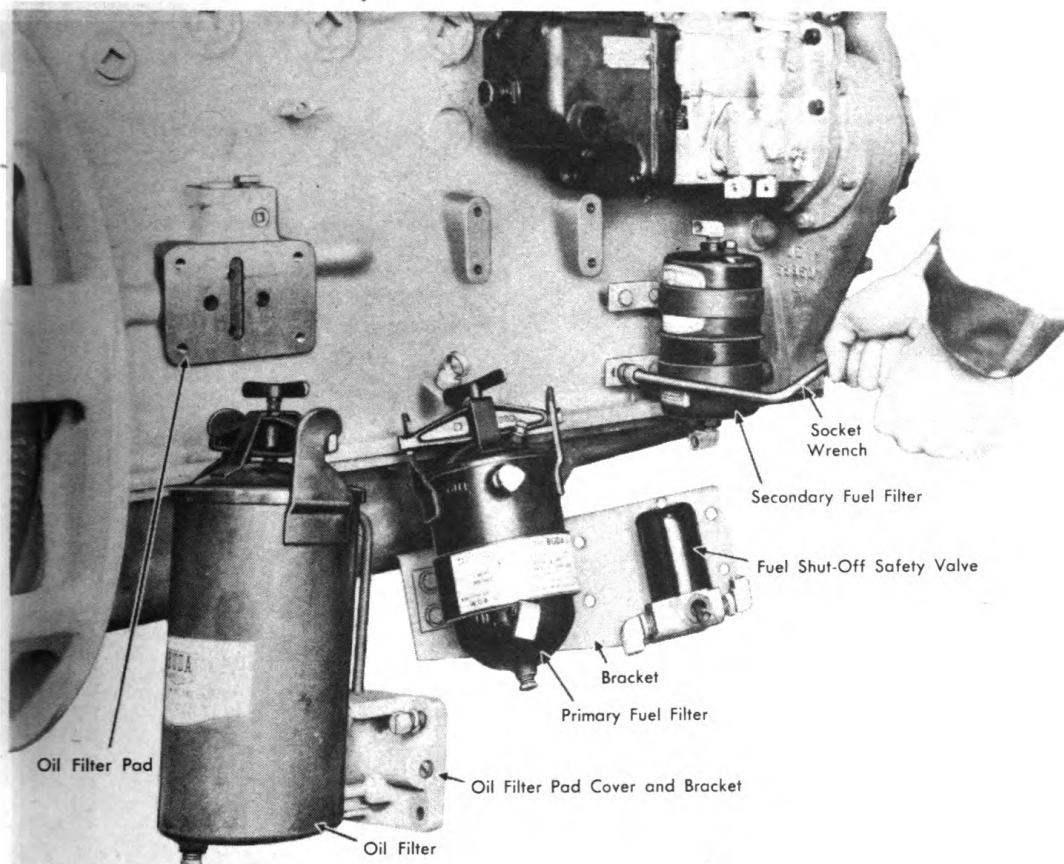

Figure 105. Removing Filters and Solenoid Valve.
2. Remove the oil filter; remove the mounting bracket to which are attached the primary fuel filter, and the solenoid safety valve. See Figure 105. Remove the fuel filter and solenoid from the bracket.
3. Remove the secondary fuel filter. See Figure 105.